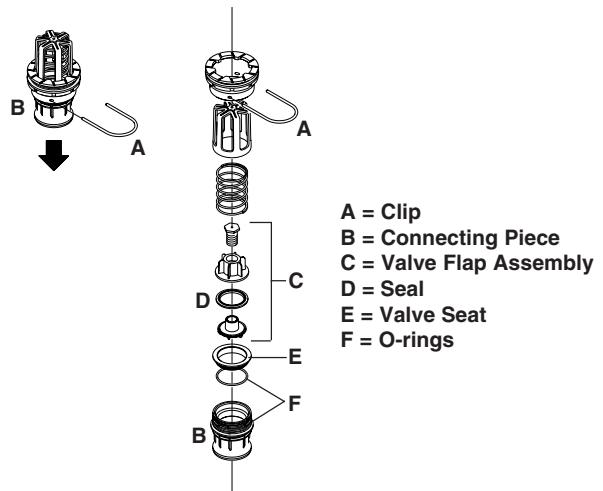

Fig 44
- 3 Pull out the clip (**A** Fig 44) and pull down the connecting piece (**B** Fig 44). The entire valve assembly can now be pulled out.
- 4 Check the cord and valve flap assembly (**C** Fig 44) for wear, replace the seal (**D** Fig 44) and reassemble.
- 5 Assemble the valve assembly again using a new valve seat (**E** Fig 44). Lubricate the O-rings (**F** Fig 44) before assembly.
- 6 Fit the clip (**A** Fig 44) again.